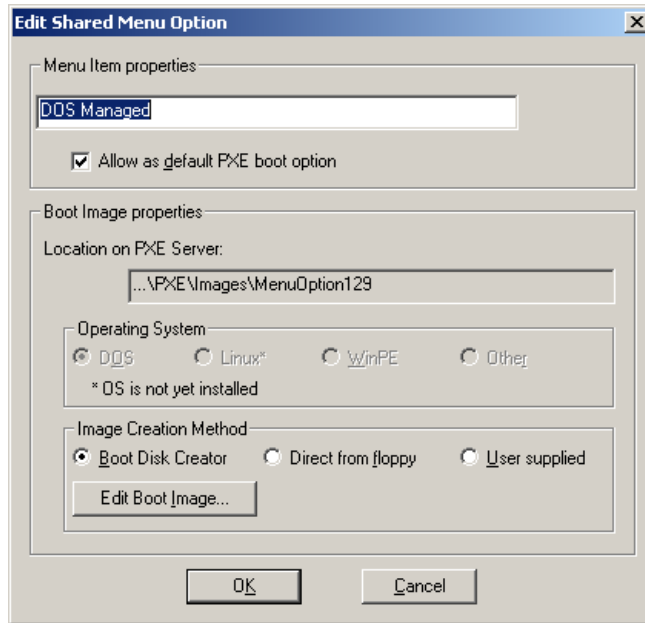

Figure 6-11 The Edit Shared Menu Option window for the DOS Managed PXE boot image
17. Click **Finish** to close the Altiris Boot Disk Creator. This will return you to the window shown in Figure 6-11 on page 184. Click **OK** to close the Edit Shared Menu Option window. This will return you to the PXE Configuration Utility. Notice that the **Save** button is enabled after the boot image has been changed. Click **Save** to save the altered boot image.